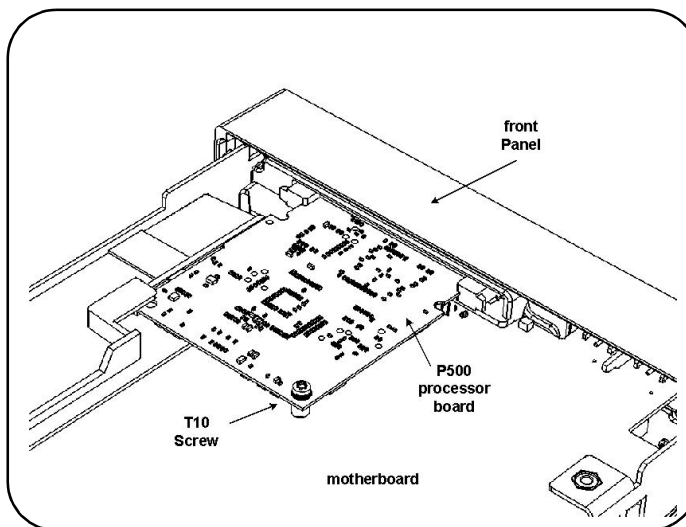

Figure 11. P500 Processor Board.
2. Turn the chassis upside down. On the bottom of the motherboard, remove the T10 TORX screw that secures the smaller P500 Processor board to the motherboard (see Figure 11; for illustration purposes only, the P500 board is shown with plastic support bracket removed).
17. Re-install the P500 Processor board on the underside of the motherboard (removed in steps 3 and 4 above) as follows (refer to Figure 11):